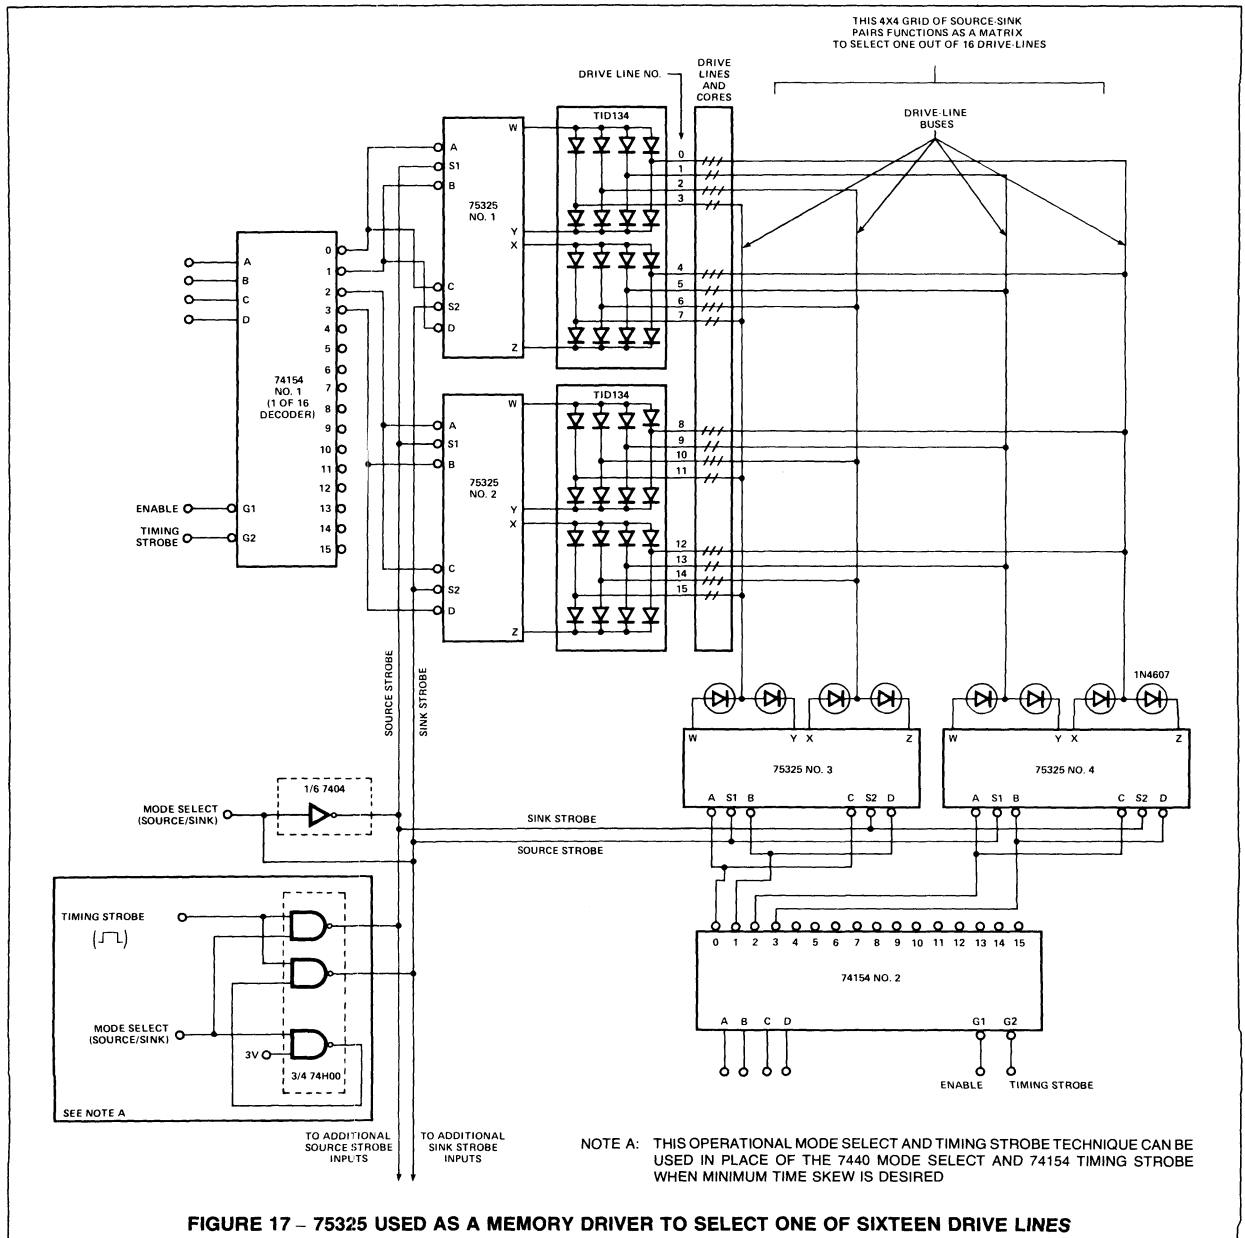
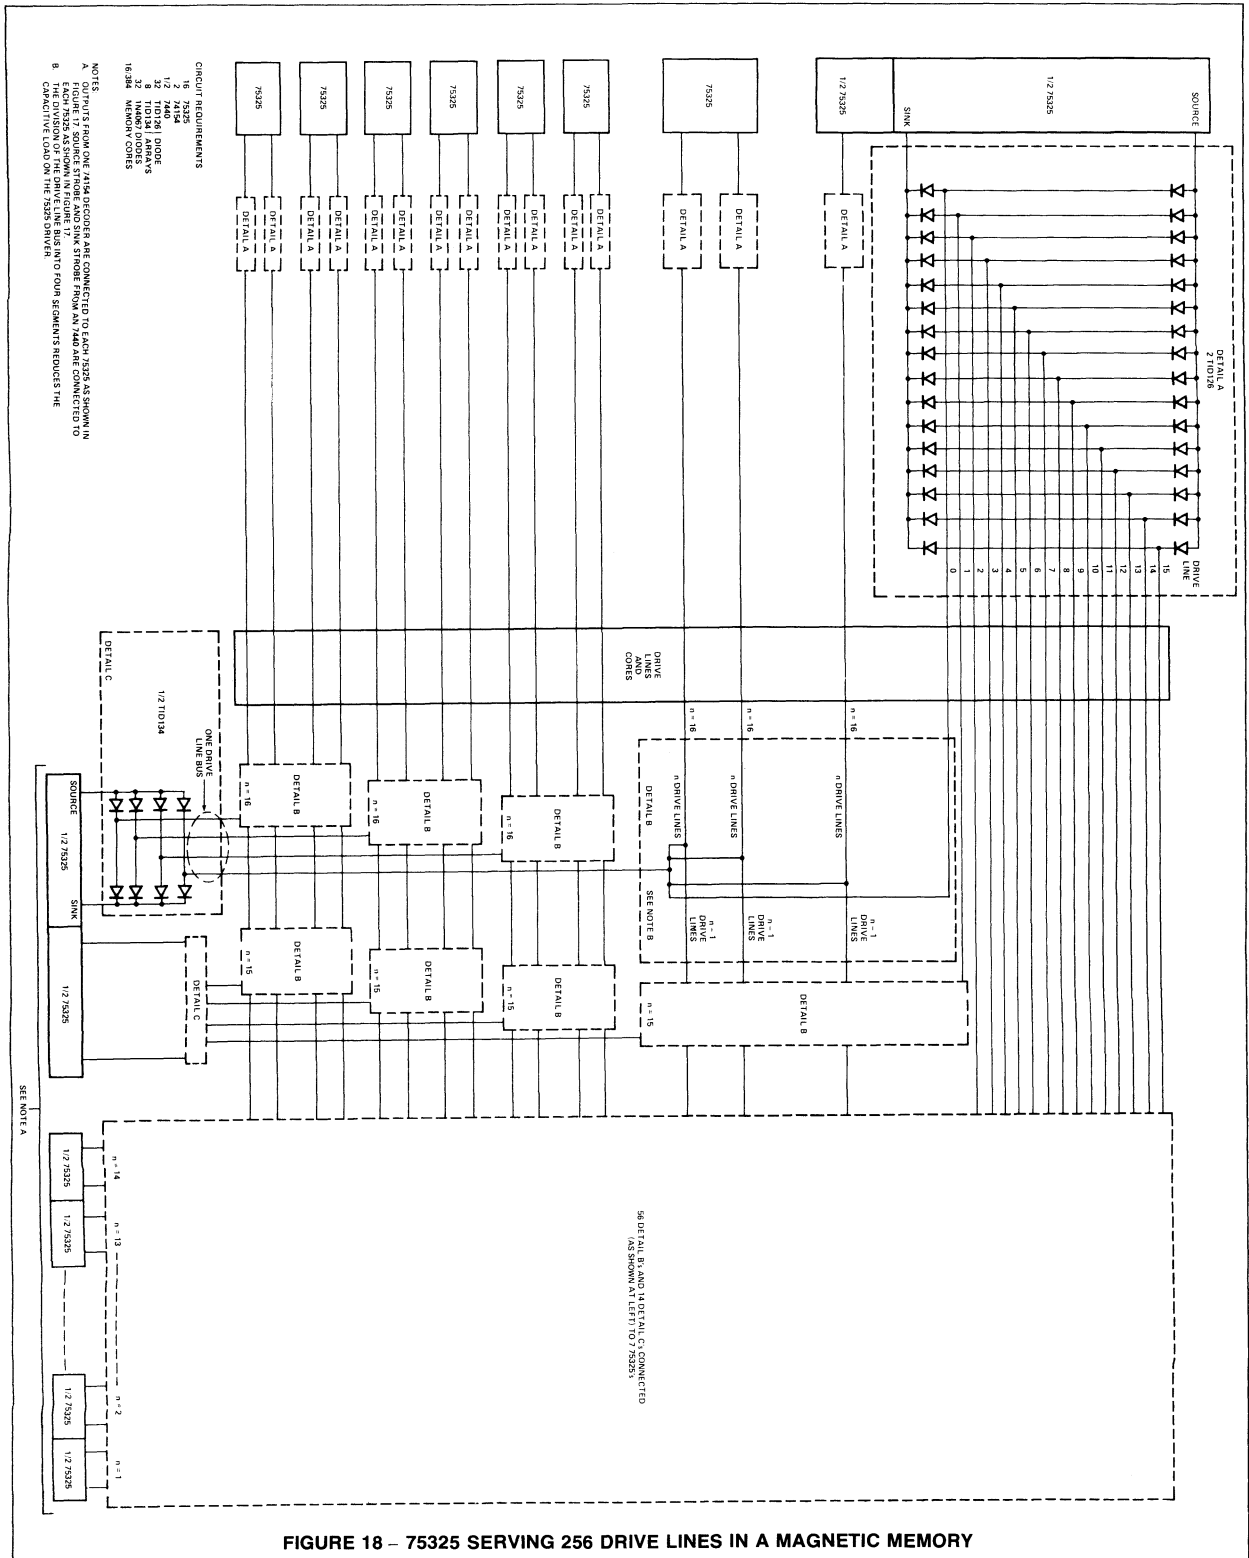

FIGURE 17 - 75325 USED AS A MEMORY DRIVER TO SELECT ONE OF SIXTEEN DRIVE LINES
FIGURE 18 - 75325 SERVING 256 DRIVE LINES IN A MAGNETIC MEMORY
In memory-drive applications the 75325 (or for full-temperature operation, the 55325) can be connected in any of several ways. Typically, however, sources and sinks are arranged in pairs from which many drive-lines branch off as shown in Figure 17. Here each drive-line is served by a unique combination of two source/sink pairs so that a selection matrix is formed. To select drive-line 13, 75154 No. 1 must be set to 3 (with mode select high), enabling source X of 75325 No. 2 to drive lines 12 through 15, and 74154 No. 2 must be set to 2, providing a sink at Y of 75325 No. 4 for drive-line 13 only. Alternatively, to drive current in drive-line 13 in the opposite direction, only the mode-select voltage would be changed from high to low. The size of such a matrix is limited only by the number of drive-lines that a source/sink pair can serve. This number in turn depends on the capacitive and inductive load that each drive-line of the particular system imposes on the driver. A 256-drive-line selection matrix is shown in Figure 18. These 256 drive-lines are sufficient to serve $(256/2)2 = 16,384$ individual cores.
3. For operation above 25°C free-air temperature, refer to Dissipation Derating Curve, Figure 17.